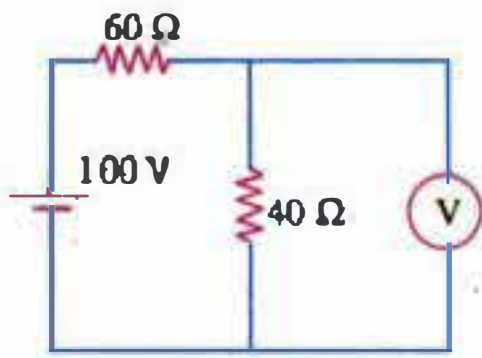

Fig. 2.45
6. In Fig. 2.45, V is an ideal voltmeter having infinite resistance. It will read volt.